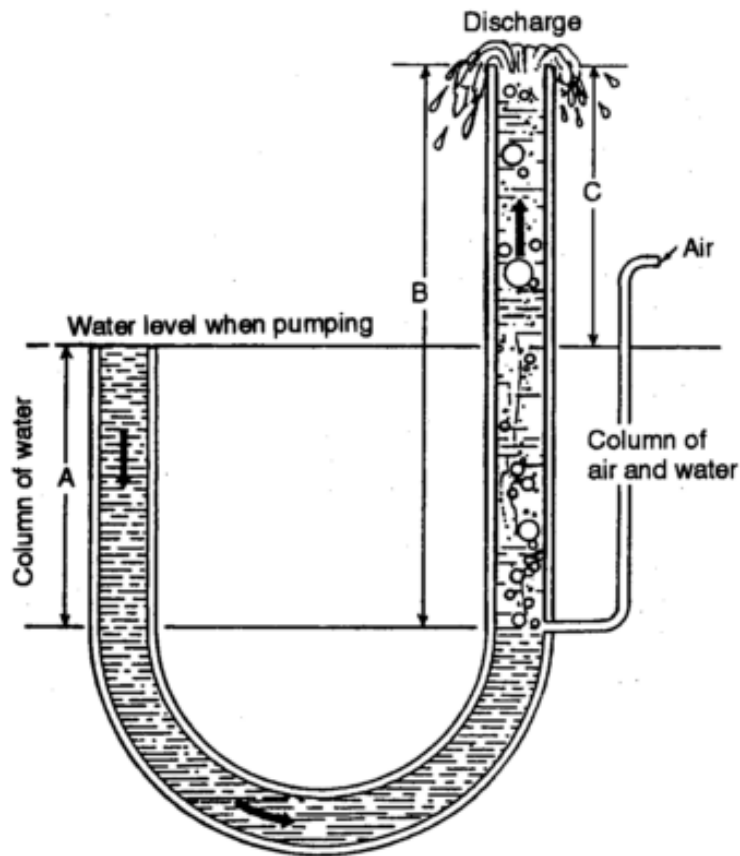

Figure 4-9. Air-lift principle
a. *Principle.* Water can be readily pumped from a well using an air-lift pump. There are no air-lift pumps in the Army supply system; however, in the field, you can improvise and make a pump using compressed air and the proper piping arrangement. The assembly consists of a vertical discharge (eductor) pipe and a smaller air pipe. Both pipes are submerged in the well below the pumping level for about two-thirds of the pump's length. The compressed air goes through the air pipe to within a few feet of the bottom of the eductor pipe and is then released inside the eductor pipe. A mixture of air bubbles and water forms inside the eductor pipe. This mixture flows up and out the top of the eductor pipe. The pumping action that causes water to rise as long as compressed air is supplied is the difference in hydrostatic pressure inside and outside the pipe resulting from the lowered specific gravity of the mixed column of water and air bubbles. The energy operating the air lift is contained in the compressed air and released in the form of bubbles in the water. Figure 4-9 shows the operating air-lift principle.